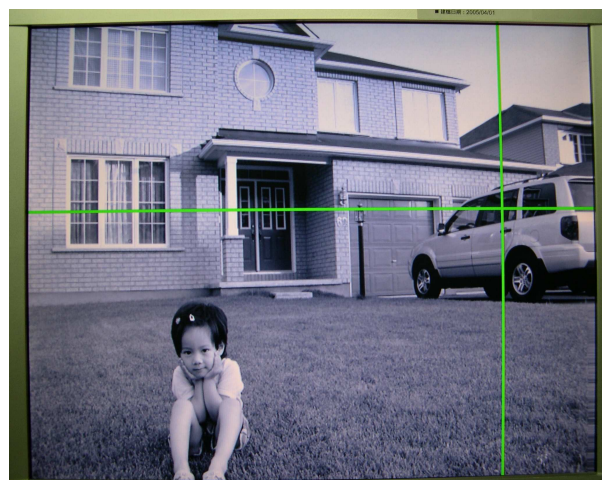

Figure 11.15 The image stored in SRAM is displayed on a VGA monitor
- ✓ You should see the VGA monitor connected to the DE2 board is showing the **Raw_Data_Gray** stored in SRAM, as shown in Figure 11.15. Users can turn off the green cursor by deselecting the checkbox of Cursor Enable.